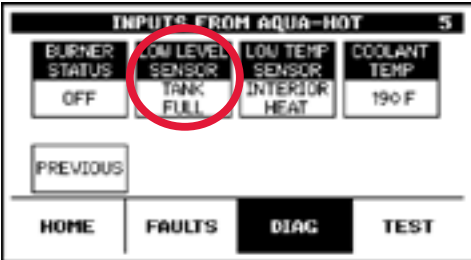

Figure 72
7. Pay attention to the “LOW LEVEL SENSOR” item on this page. See Figure 72.